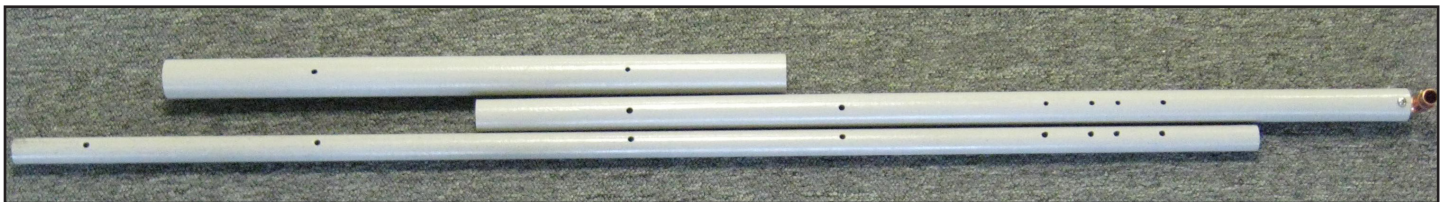

Fig. 10
- Select one of the 1.5" OD x 24" fiberglass tubes, one of the 1.250" OD x 36" fiberglass tubes with copper elbow and one of the 1.0" OD x 48" fiberglass tubes. Orient the tubes as shown in Fig. 10. Note the alignment of the holes and the relative position of each tube.